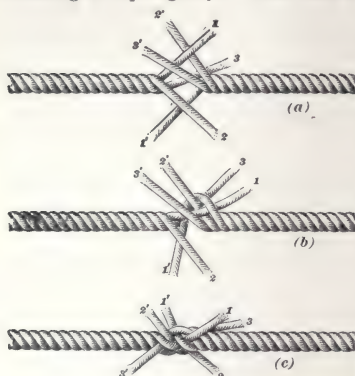

FIG. 1.
**22.** **Splicing a Sling.**—To make a short splice in a sling, untwist the strands for some distance from each end of the rope. Take an end in each hand and lay the strands within one another, as shown in Fig. 1 (a). The strands 1', 2', and 3' may be tied to the left-hand end for convenience in handling. Now take the strand 1, pass it over strand 2' and under strand 1', as shown in Fig. 1 (b); then, draw it
tight. Next, take strand 2, pass it over 3' and under 2', drawing it up tightly. Now take strand 3, pass it over 1' and under 3'; then draw it up. The splice will now appear as shown in Fig. 1 (c). Weave the strands 1', 2', and 3' into the left-hand rope in the same manner. Continue weaving the right-hand and left-hand strands alternately until the length of the splice is about 6 times the diameter of the rope. Draw the strands tight and subject the splice to a strain. Then cut off the projecting ends of the strands.